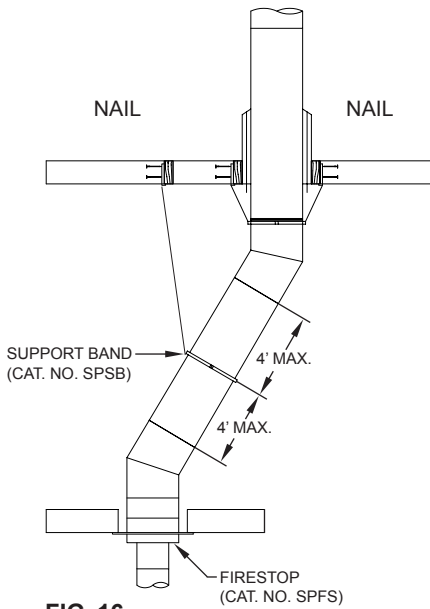

FIG. 16
2. Attach the elbow to the chimney pipe or other support part and push to lock. Using the offset chart, add chimney sections between elbows. A support band (SPSB) is required at the upper elbow of the pair to support the load, as shown in **FIG. 16**. Attach the upper elbow to bring chimney back to vertical.